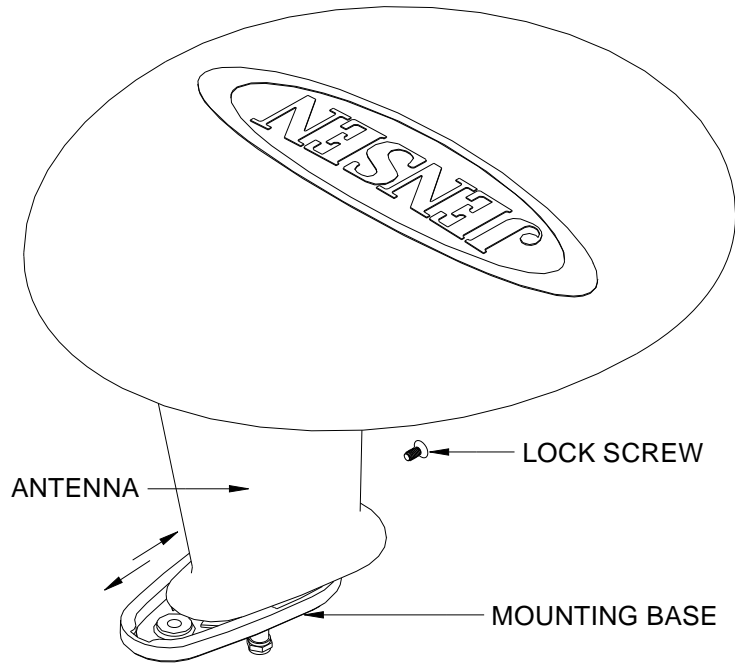

FIGURE 2
4. Remove metal base from plastic housing by removing the lock screw and sliding the base away from the plastic stalk. Mark hole locations on roof. Drill 5/8" hole for the coax cable. Pre-drill the 3 mounting screws holes with a 1/8" bit. Route RG6 Coax from wall plate through hole. See Figures 2, 3, & 4.